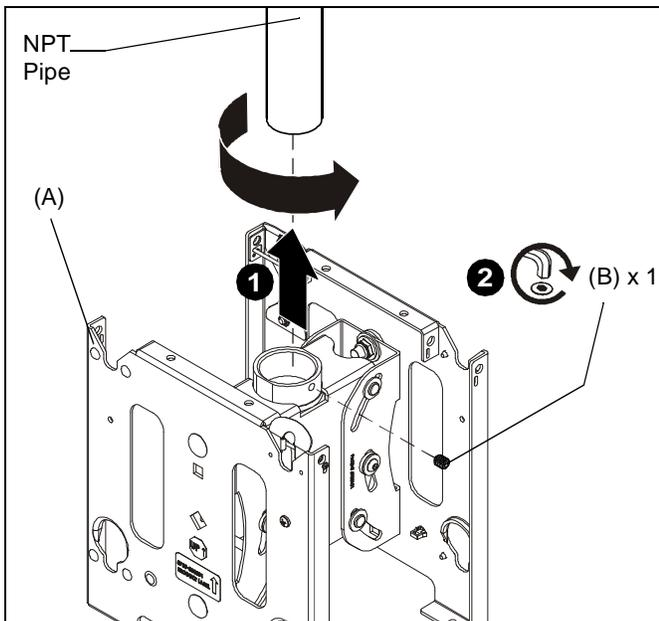

Figure 1
1. Thread the MCD mount (A) onto the existing 1-1/2" NPT or NPSM pipe (not included) until tight, with a minimum of four threads engaged. (See Figure 1)
2. Install and tighten the 5/16-18 x 3/8" set screw (B). (See Figure 1)